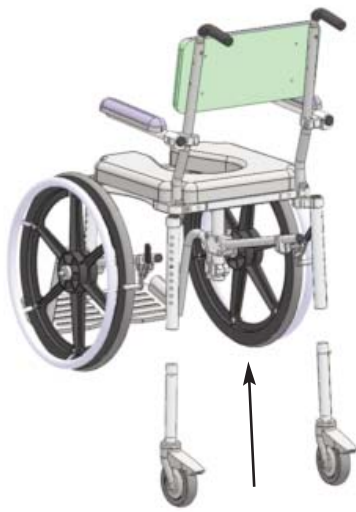

Figure 15
- 7) Re-install the two 5" casters into the 10-Hole offset outer legs (Refer to Figure 15).